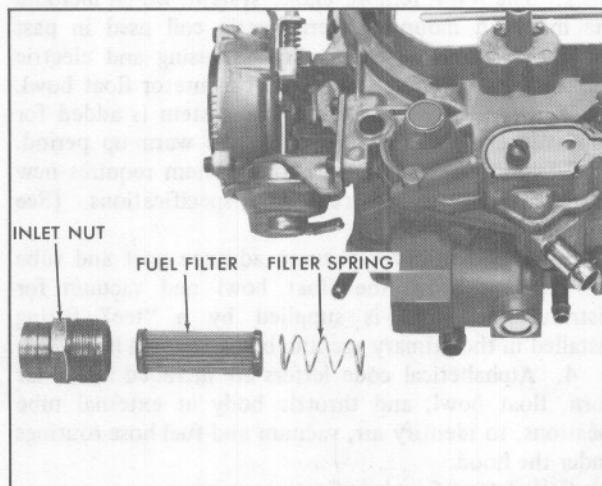

Fig. 6-18 Fuel Filter
The 1975 fuel pump is identical to previous designs except that fuel filter formerly located inside the pump is moved to a position behind the carburetor inlet nut, Fig. 6-18.
5. A 2" pleated paper fuel inlet filter, with longer fuel inlet nut, is added to the carburetor float bowl on all models, Fig. 6-18.